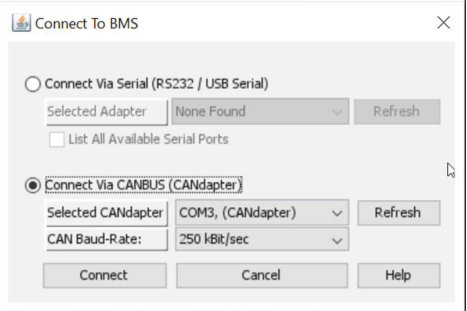

fig. 4 – Orion BMS Jr connection software window selector for connection type.
- Select Connection Type** – In the connection window, select "Connect via CANBUS" and click "Connect." (fig. 4)